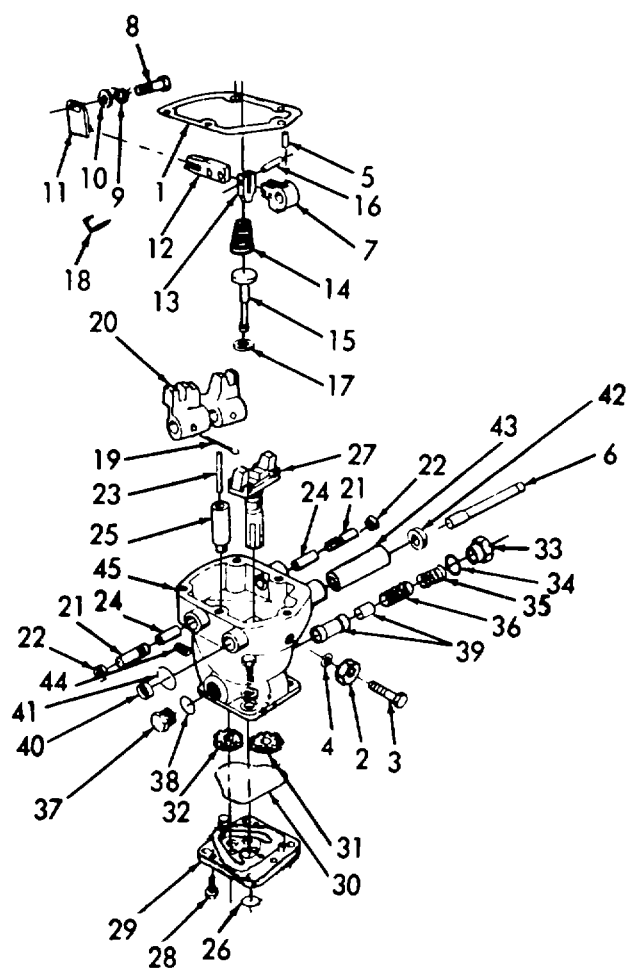

Figure 3-20. Governor Housing and Base, Disassembly/Reassembly.
- (1) Before removing any parts from the governor, wash the unit thoroughly in cleaning solvent (item 4, Appendix C), and allow unit to dry. Inspect unit for worn or damaged parts that may be repaired or replaced without completely disassembling the governor.
- (2) Disassemble the governor sub-cap as follows:
- (a) Loosen the fuel rod knob locknut (1) and remove knob (2) and nut from fuel rod (3).
- (b) Pull the spacer (4) out of the sub-cap and off the fuel rod.
- (c) Pull the fuel rod out of the sub-cap and remove the fuel rod collar (5), shutdown spring (6), fuel rod disc (7), and the fuel rod spring (8) from the sub-cap.
- (d) Loosen the load limit adjusting screw locknut (9) and remove the load limit screw (10) and washer (11) from the sub-cap.
- (e) If necessary, remove the fuel rod oil seal (12) and the sub-cap plug (13) from the sub-cap.
- (f) Examine the fuel rod bushing (14) in the sub-cap (15). If worn or damaged, press it out of the sub-cap with an arbor press.
- (3) Clamp the governor housing and base assembly (figure 3-20) in a bench vise equipped with soft jaws.
- (a) Remove sub-cap to housing gasket (1).
- (b) Loosen the maximum speed adjusting screw locknut (2) and remove the adjusting screw (3) and flat washer (4) from the governor housing.
- (c) Remove the speed adjusting lever roll spring pin (5) from the speed adjusting lever and the lever shaft using a small punch and hammer.
- (a) With bearing (8) properly supported on bed of arbor press, press drive shaft (7) into bearing and against shoulder of shaft.
- (b) Start bearing (12) on driven shaft (11) followed by sleeve (13); then, with sleeve properly supported on bed of arbor press, and using a brass bar between ram and gear, press shaft into bearing and sleeve.
- (d) Start a nut (4) and flat washer (6) on each setscrew (5) and thread screws into the governor housing until they bottom on outer race of bearing.
- (e) Install the horizontal drive shaft assembly in governor housing with bearing (8) resting in counter-bore provided and with teeth of the horizontal drive gear in mesh with the teeth on the vertical driven gear.
- (f) Place a lockwasher (2) and flat washer (3) over each bearing retaining bolt (1) and thread bolts into the drive housing to secure bearing.
- (g) Affix a new gasket (10) to the drive housing (9).
- (2) Refer to figure 3-20 and reassemble the governor housing and base assembly.
- (a) Install pipe plug (44) in housing (45). Install the terminal speed adjusting lever shaft bushing (43) in the housing.
- (b) Lubricate the two oil pump gears (31 and 32) with engine oil and place them in their respective positions in the governor base (29).
- (c) Place a new seal ring (30) in the groove in the governor base, with the wide side of the seal down in the groove.